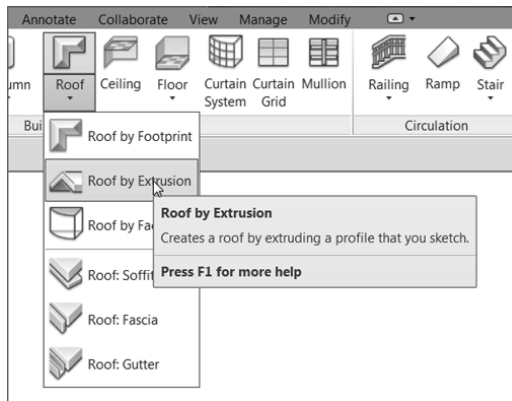

FIGURE 7.49 : The Roof > Roof By Extrusion command
1. On the Architecture tab, choose **Roof > Roof By Extrusion**, as shown in Figure 7.49.